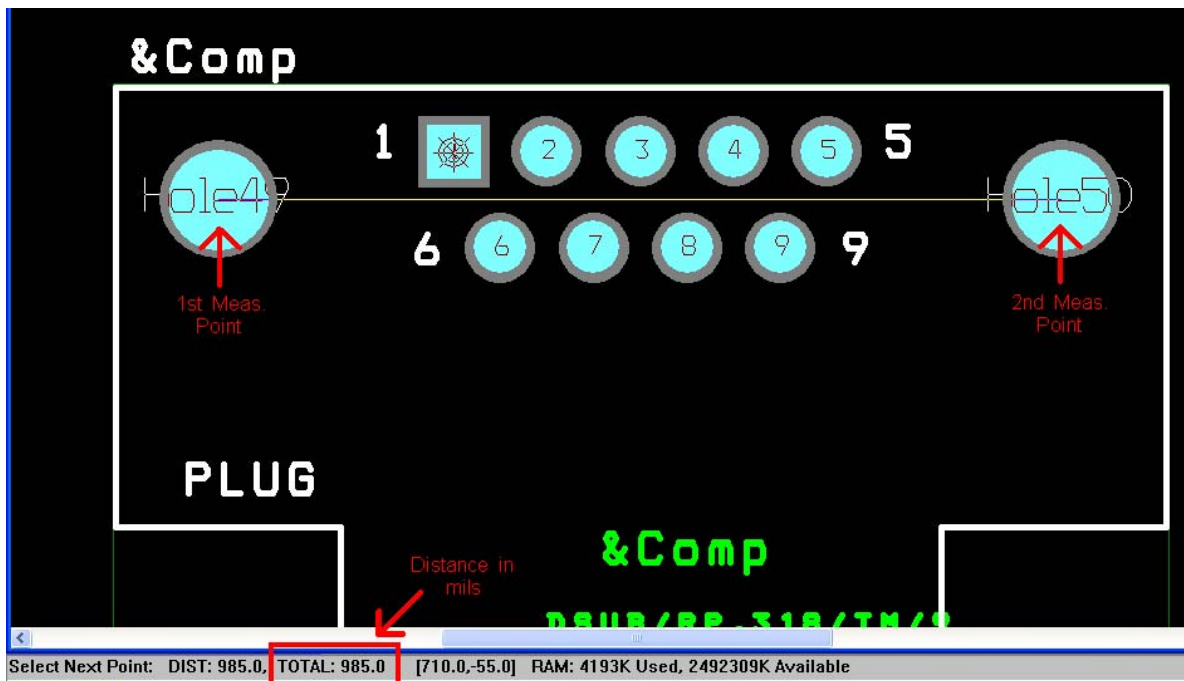

Figure 2.6: Using the Measurement Tool
15. First click the centre of Hole49, and then click the centre of Hole50 (See Figure 2.6)